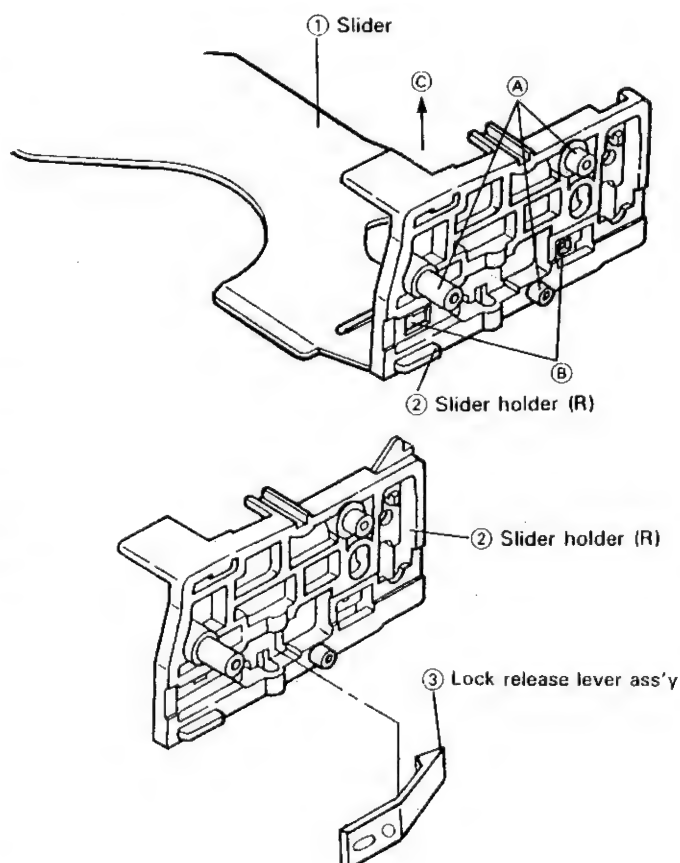

Figure 1-7.
• Removal (Fig. 1-7)
1. Turn the coupling clockwise until the slider ① comes to the cassette down position.
● Reassembly (Fig. 1-7)